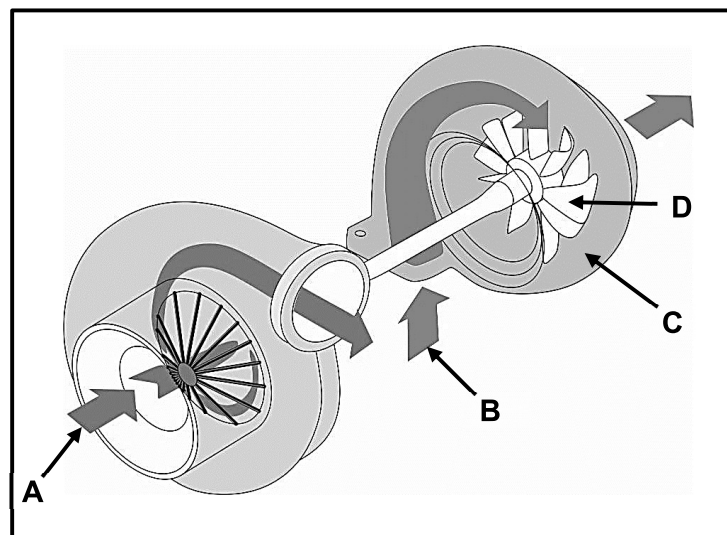

FIGURE 6.5
- 6.5 FIGURE 6.5 below shows a turbocharger that is fitted to an internal combustion engine. Answer the questions that follow.